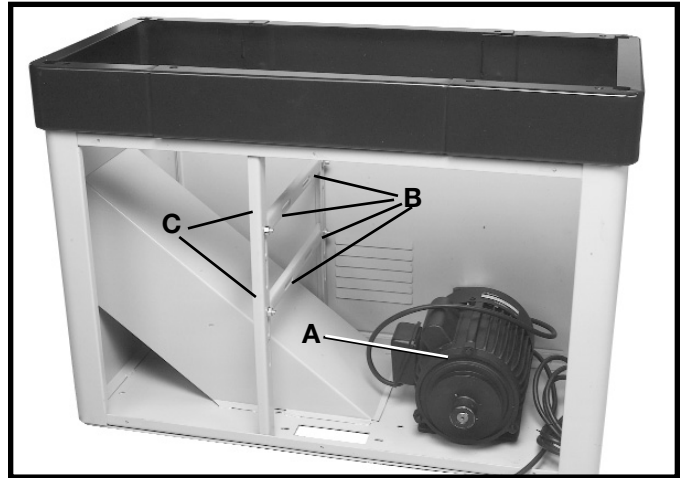
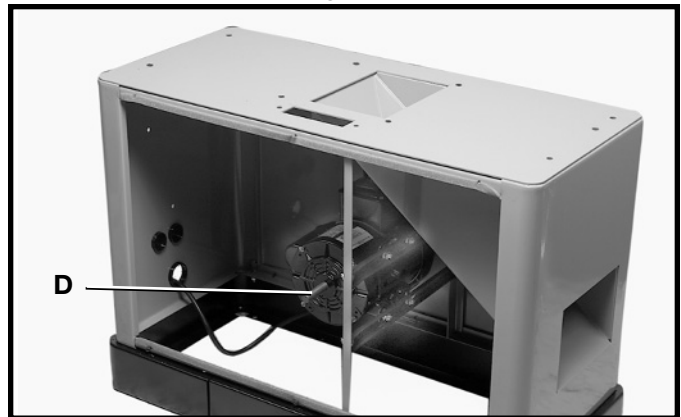

Fig. 4B
Fig. 4C
1. Turn stand upside down as shown in Fig. 4B.
3. Remove the four bolts that attach the motor (A) Fig 4B to the stand. **NOTE: SAVE THESE BOLTS AS THEY WILL BE USED TO ATTACH THE MOTOR TO THE MOUNTING BRACKETS.**
4. Align the holes in the motor mounting plate with the four holes (B) Fig. 4B in the two motor mounting brackets (C). Attach the motor to the motor mounting brackets with the hardware that was removed in STEP 2. **NOTE: MAKE SURE THAT MOTOR SHAFT (D) FIG 4C IS FACING OUT OF THE OPENING IN THE MOTOR CABINET AS SHOWN.**
5. Turn the stand over so that it is resting on its base as shown in Fig. 4C.